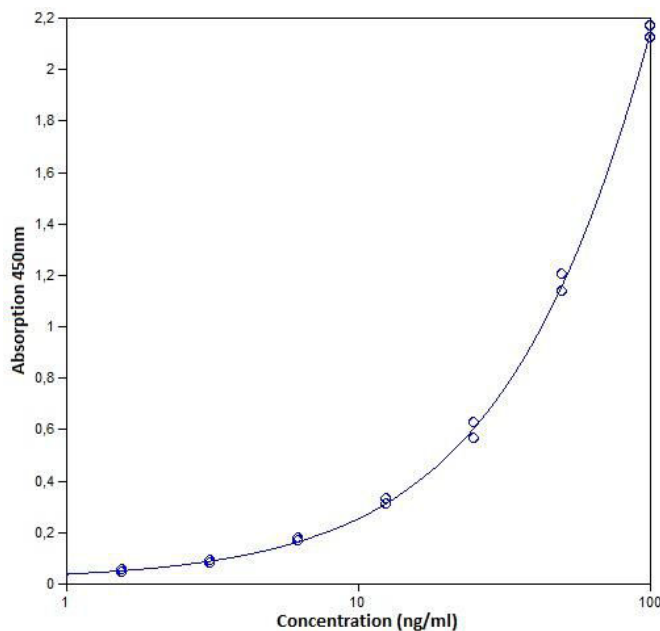

Fig. 7 Representative standard curve for human total IgG ELISA. Human total IgG was diluted in serial 2-fold steps in Assay Buffer (1x).
- A representative standard curve is shown in Figure 7.